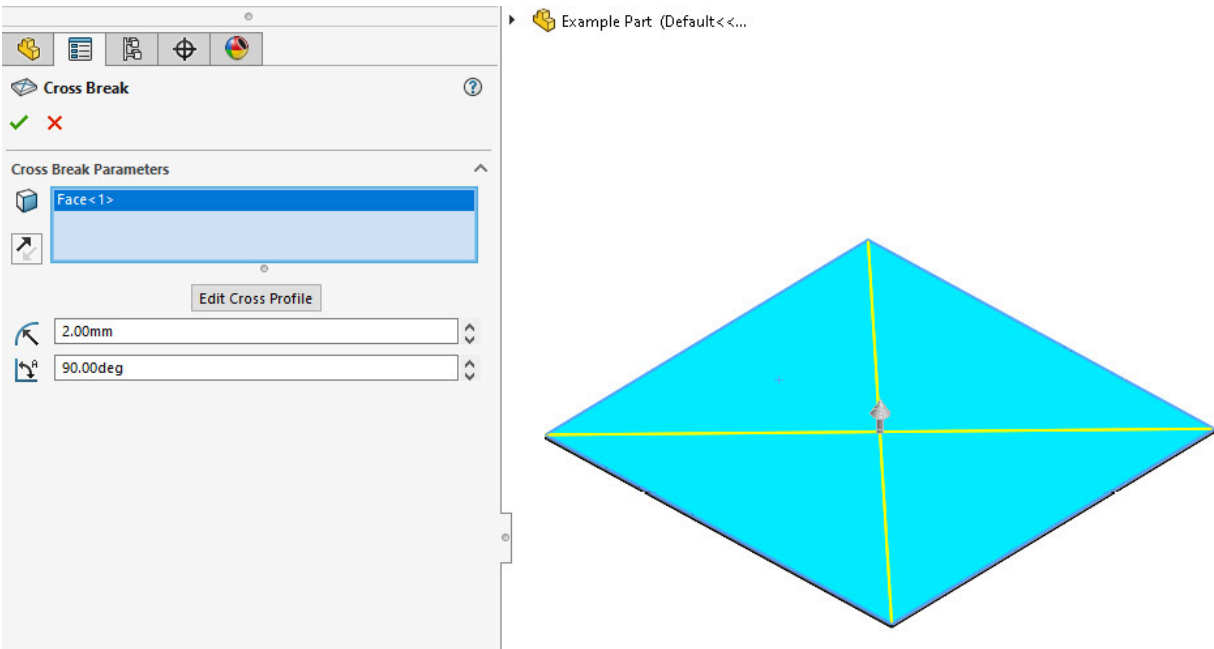

Figure 6.8: The Cross Break tool
3. Now, left-click to select the face where you want to add the **Cross Break** feature. A yellow preview will appear, showing where the **Cross Break** feature's bends will be added (*Figure 6.8*):